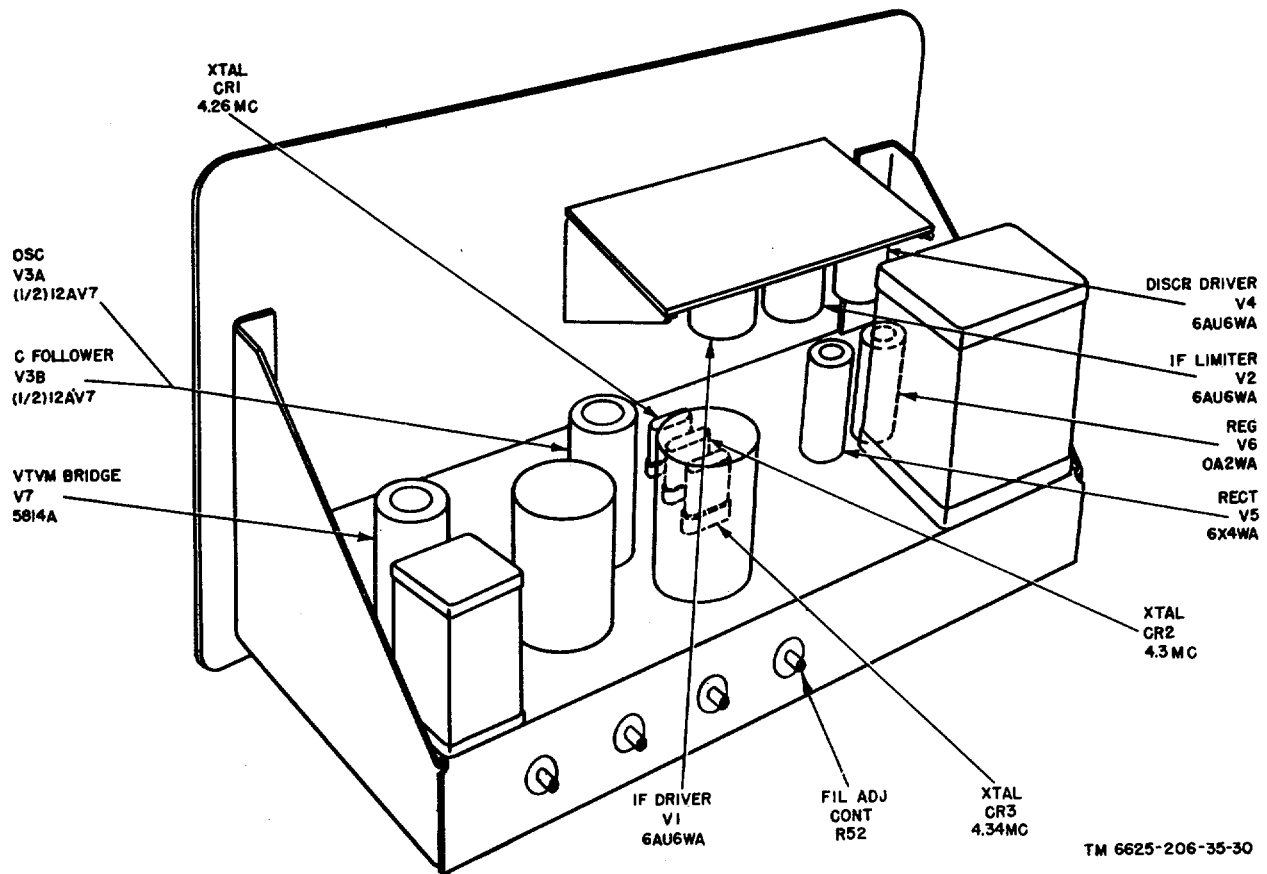
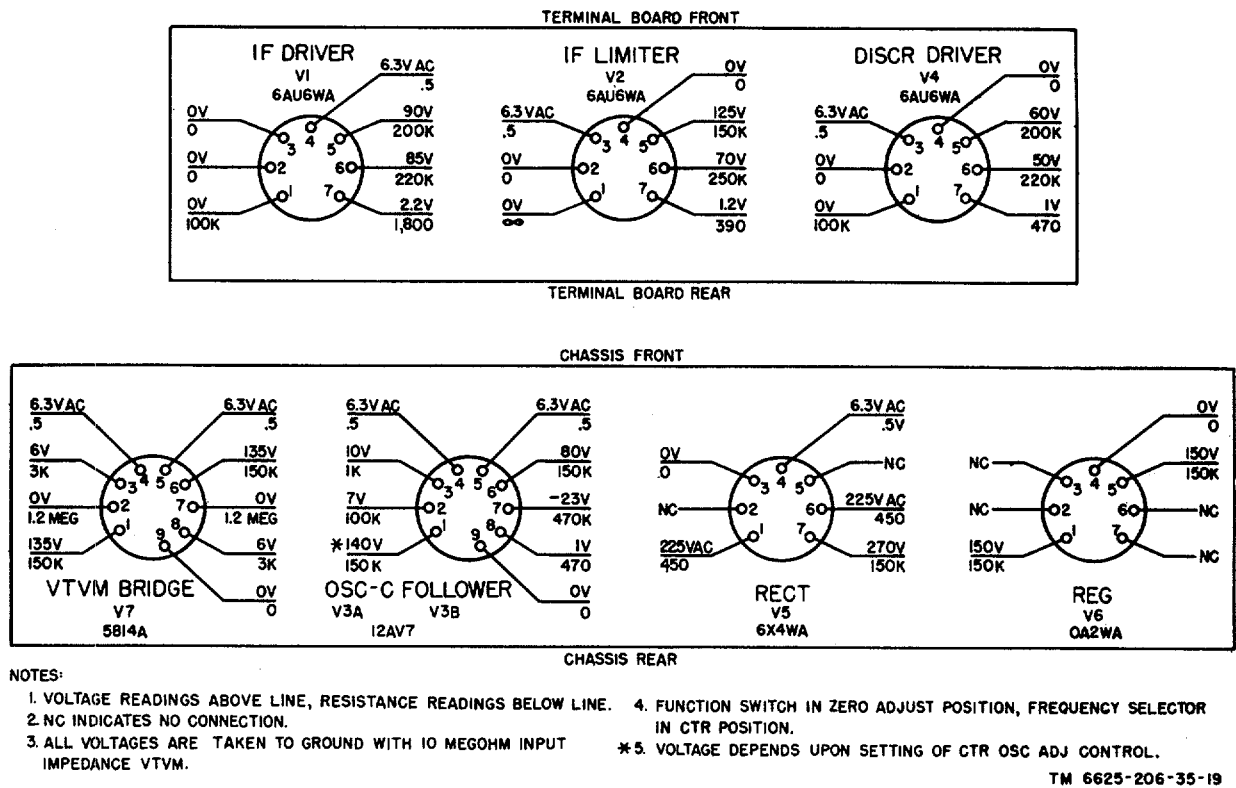

Figure 17. Tube and crystal location diagram.
Figure 18. Voltage and resistance data.
- (1) *Voltage and resistance measurements.* These measurements will help locate the individual component part at fault. Use resistor and capacitor color codes (figs. 24 and 25) to find the value of the components. Use the voltage and resistance diagram (fig. 18) to find normal readings, and compare them with readings taken.
- (2) *Troubleshooting chart.* The trouble symptoms listed in the troubleshooting chart (para. 21*d*) will aid in localizing trouble to a component part.
- (3) *Intermittent troubles.* In all these tests, the possibility of intermittent troubles should not be overlooked. If present, this type of trouble often may be made to appear by tapping or jarring the equipment. Check the wiring and connections to component parts of the set.
a. *General.* In the troubleshooting chart (d below), procedures are outlined for localizing troubles to a stage within the unit. Use this chart before going through extensive troubleshooting procedures. Parts locations are indicated in figures 19 through 21. When trouble has been localized to a particular stage, use voltage and resistance measurements (fig. 18) to isolate the trouble to a particular part.
b. *Use of Chart.* The troubleshooting chart is designed to supplement the operational checks detailed in TM 11-6625-206-12. If no operational symptoms are known, begin with item 1 of the operational checklist (TM 11-6625-20612) and proceed until a symptom of trouble appears.
Defective IF driver stage V1.	Check V1 (fig. 17) and replace if defective. Compare the voltage and resistance values measured between the socket of V1 and ground with values shown in figure 18. Localize defective component (para. 18).
Defective IF limiter stage V2.	Check V2 (fig. 17) and replace if defective. Compare the voltage and resistance values measured between the socket of V2 and ground with values shown in figure 18. Check associated circuit components. Note. A signal is applied to IF limiter stage V2 only if an AM-427/U or test plug is inserted into socket X2.
b. Take voltage measurements at the tube sockets (figs. 17 and 18).